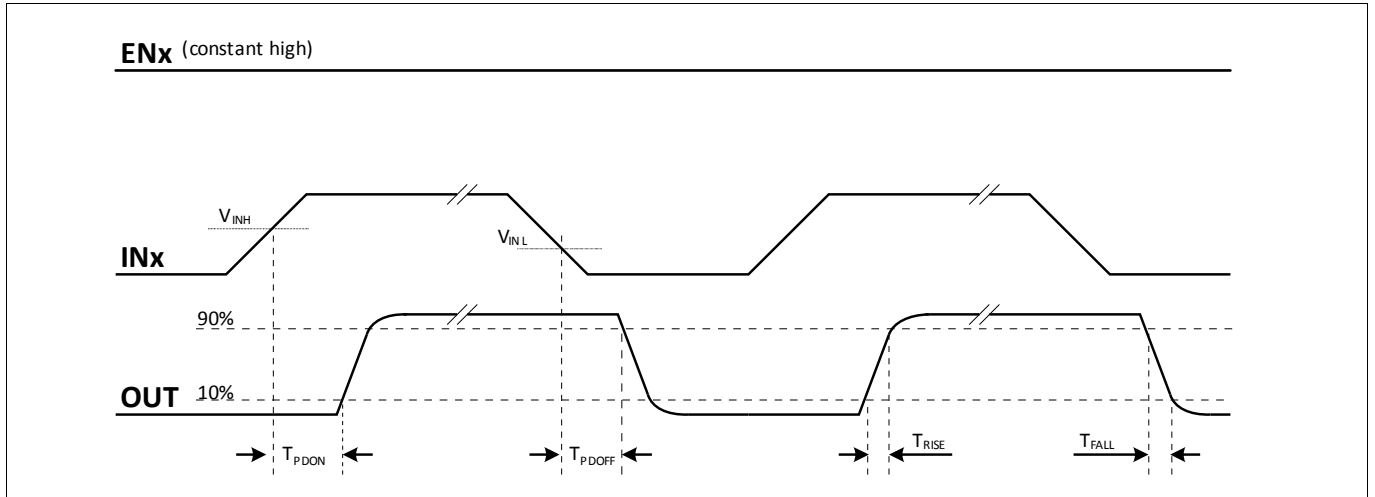
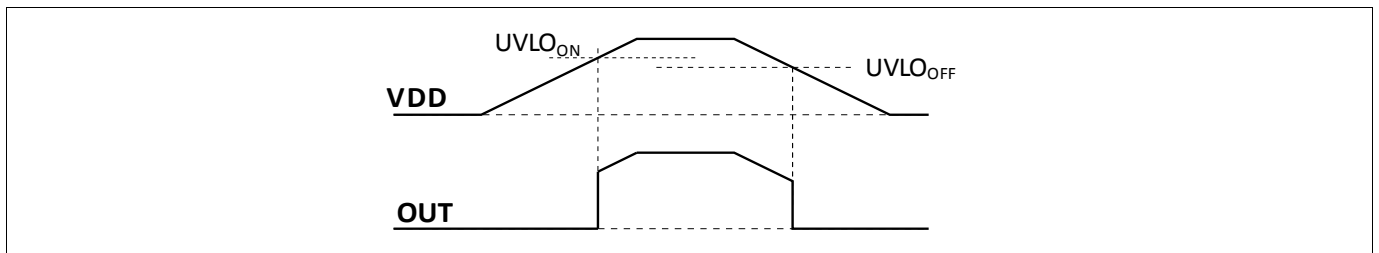
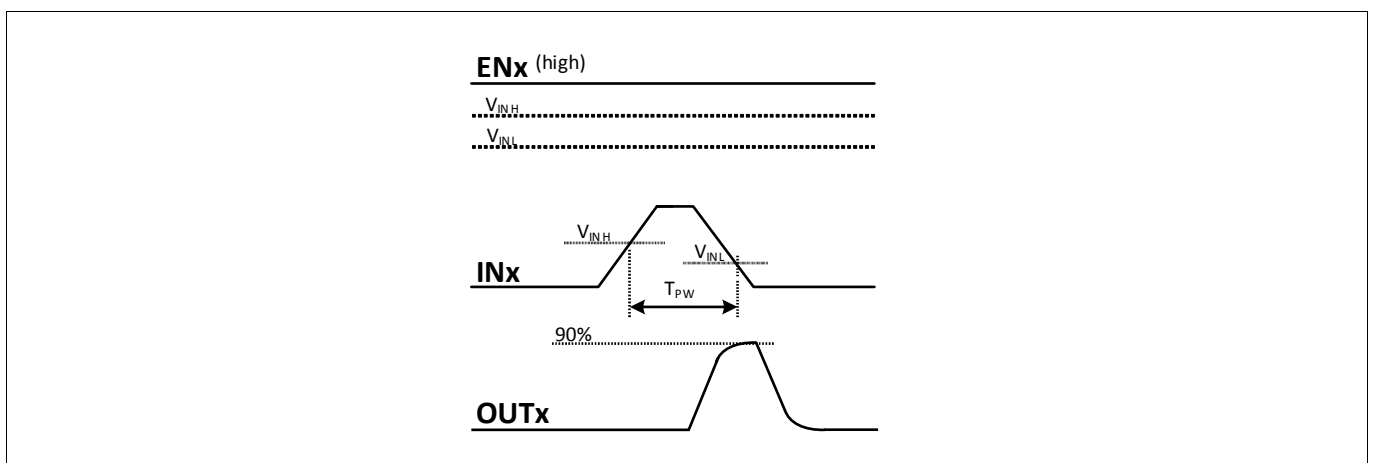

Figure 4 Propagation delay, rise and fall time, non-inverted
Figure 5 UVLO behaviour, input ENx and INx drives OUTx normally high
Figure 6 TPW, minimum input pulse width that changes output state
**Table 12 Static Output Characteristics (see Figure 4)**
**Table 13 Dynamic Characteristics (see Figure 4, Figure 5 and Figure 6)**
Figure 4 shows the definition of rise, fall and delay times for the inputs of the non-inverting / direct version (with Enable pin high or open).
Figure 5 illustrates the undervoltage lockout function.
Figure 6 illustrates the minimum input pulse width that changes output state.